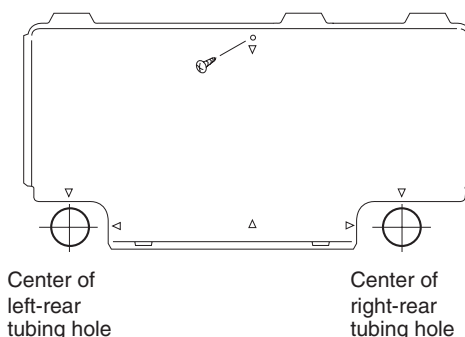

Fig. 1-32
- (1) Remove the rear panel from the indoor unit and place it on the wall at the location selected. Make sure the unit is horizontal using a level gauge or tape measure to measure down from the ceiling.
- (2) Determine which side of the unit you should make the hole. (Fig. 1-32)
- (3) Before making a hole, check carefully that no studs or pipes are directly run behind the spot to be cut.